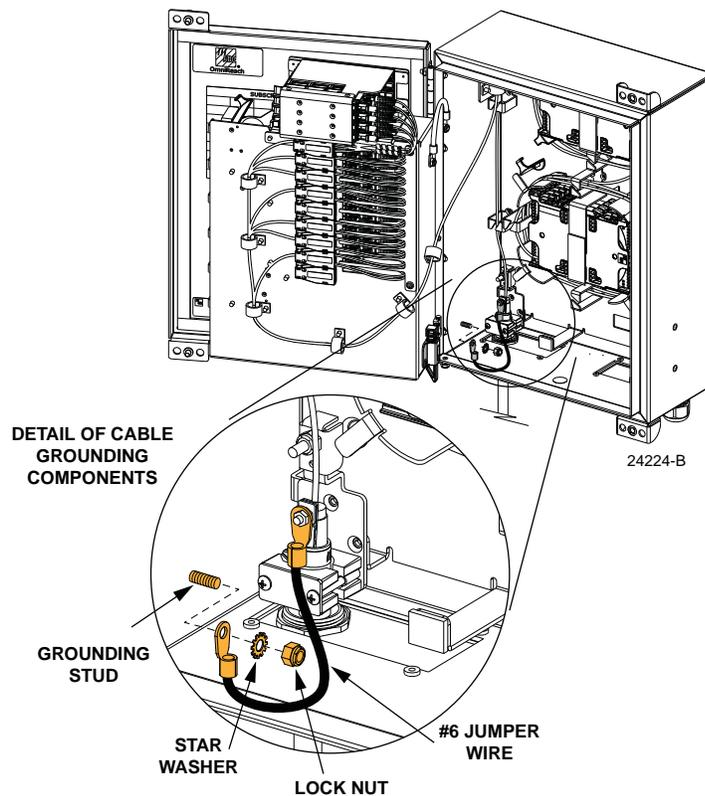

Figure 18. Feeder Cable Grounding
2. Remove the lock nut and star washer from the feeder cable grounding stud located in the lower left corner of the cabinet as shown in Figure 18.